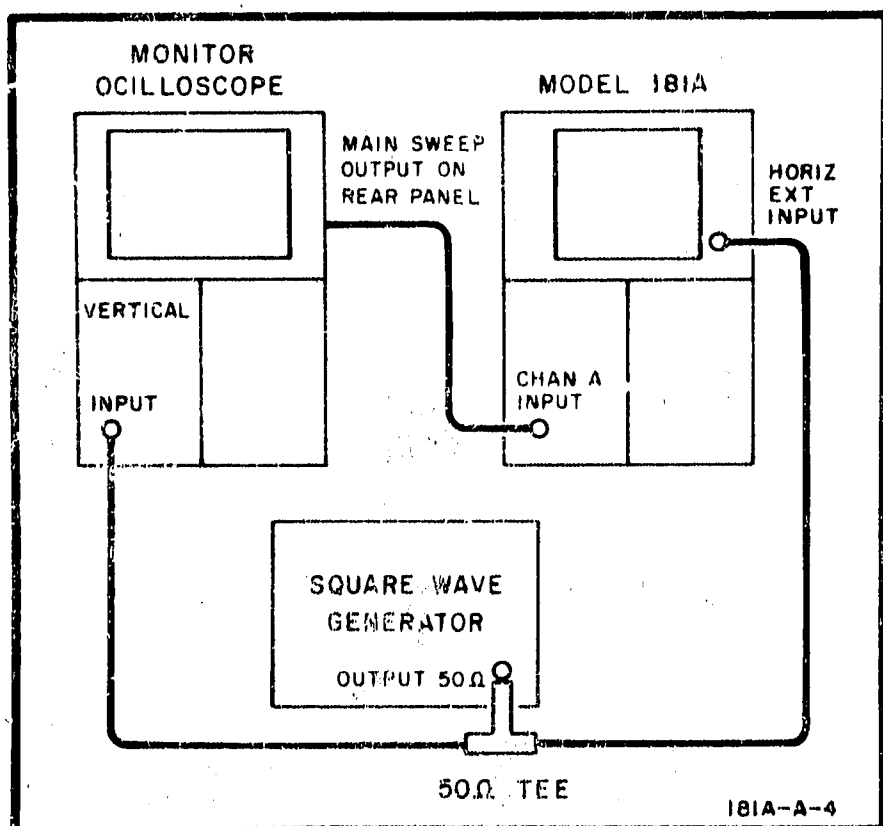

Figure 5-3. Transient Response Adj. Test Setup
a. Use test setup (Figure 5-3).
e. Connect 1V p-p square wave at 200 kHz repetition rate from Square-wave Generator to HORIZONTAL EXT INPUT and to Monitor Oscilloscope Vertical input (Figure 5-3).